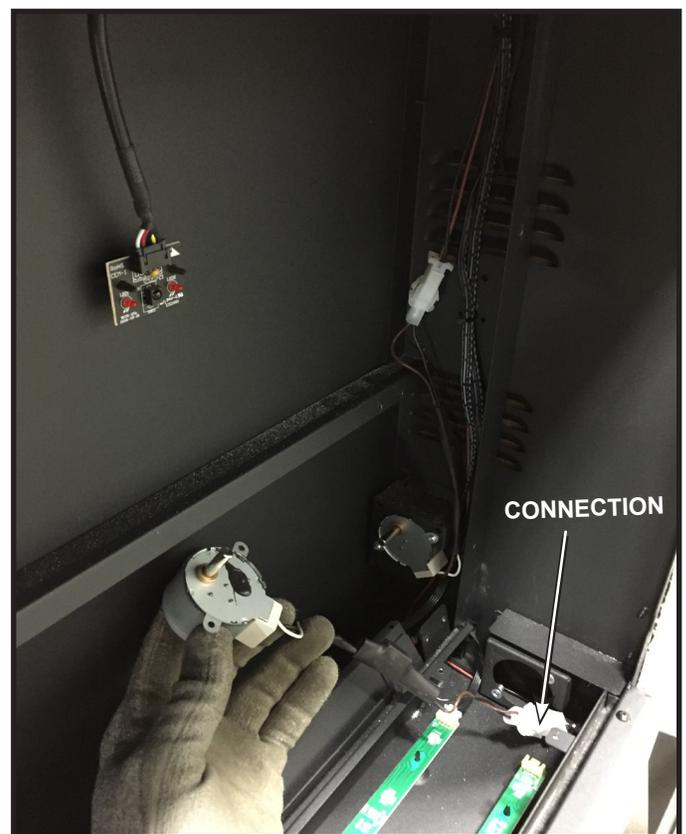

Figure 19
8. Remove each motor until the electrical connector is visible. See Figure 19.
9. Disconnect the electrical connector to the motor. See Figure 19.